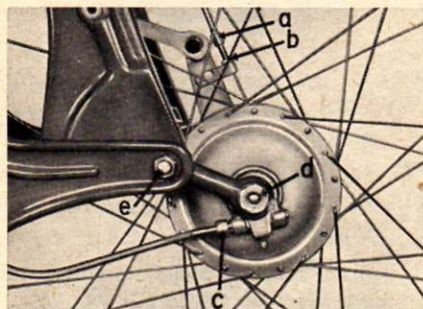

Fig. 70 Front wheel fitted
5. Reverse the procedure when reassembling. See that the drive illustrated in fig. 70 is fitted squarely on the axle and that the driving elements fit into the axle grooves.